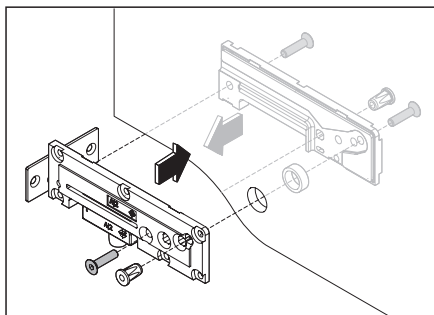

Fig. 7 Mounting the fitting
12. Mount the complete fitting on the overpanel (Fig. 7).